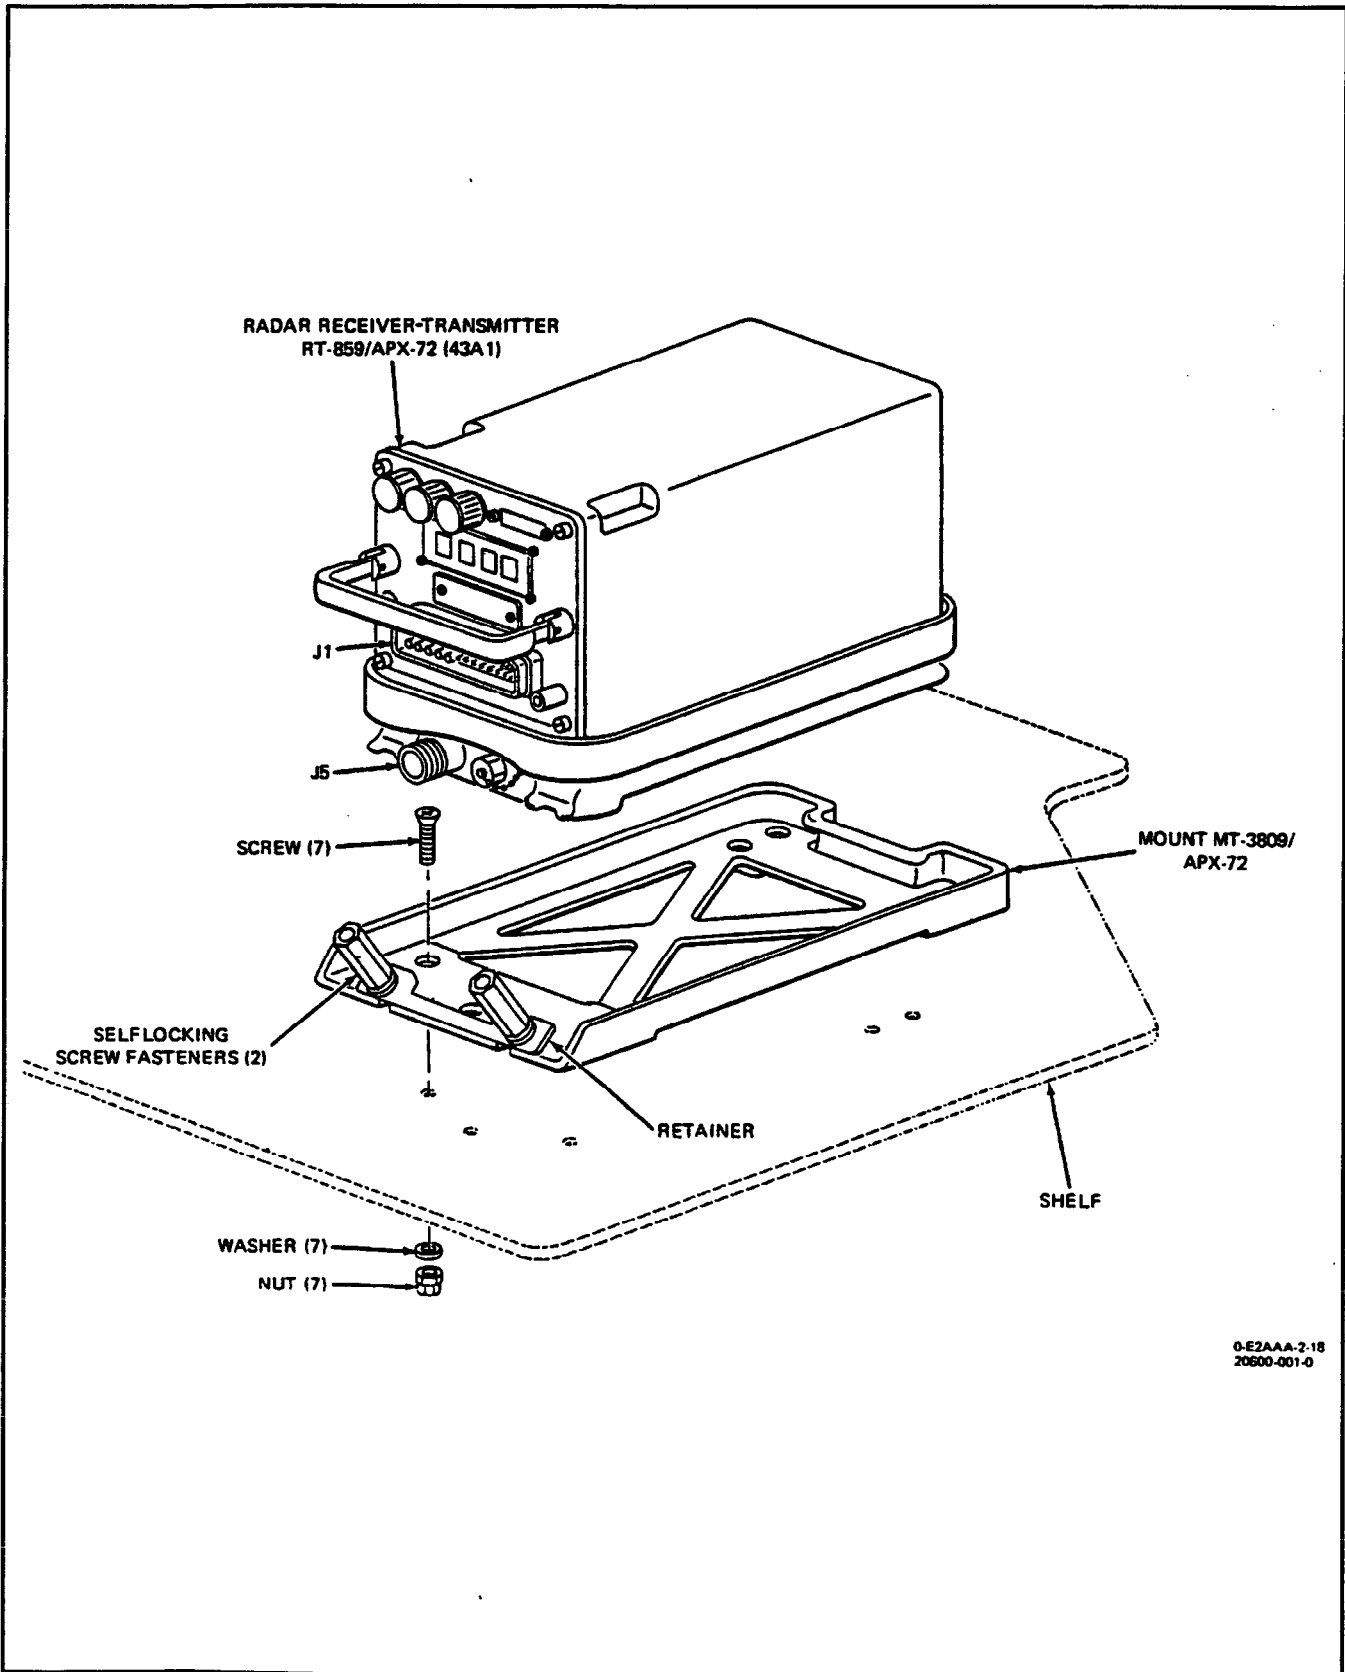

Figure 1. Removal and Installation of Radar Receiver-Transmitter RT-859/APX-72 and Mount MT-3809/APX-72
4. REMOVAL. (See figure 1.)
5. INSTALLATION. (See figure 1.)